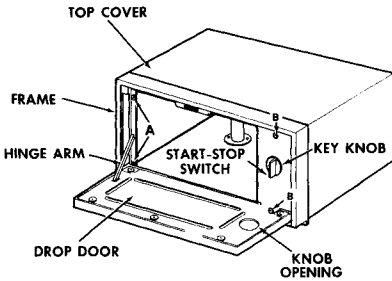

Figure 12 - Key Knob, Switch and associated parts.
3. Remove frame by running out four screws (marked "A" & "B") from each corner. Note that two "A" screws are short and "B" screws are long. See Figure 12.